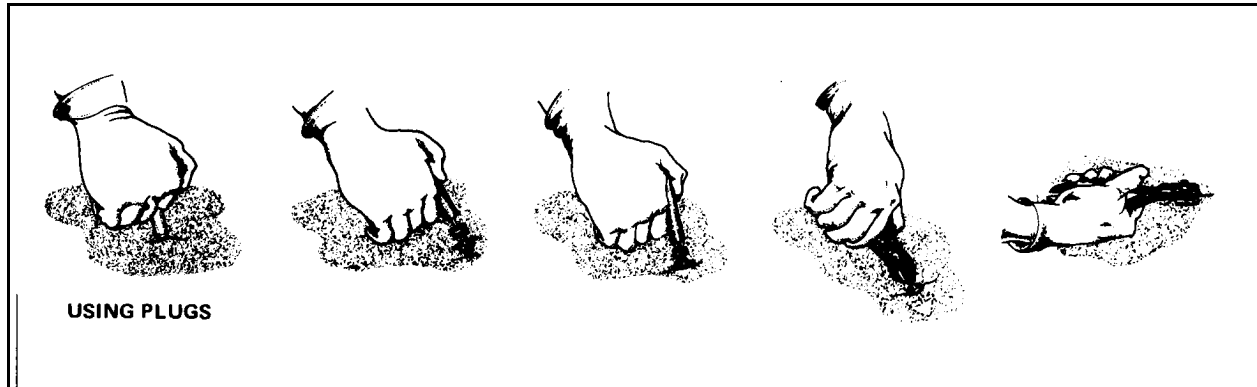

Figure 12-11. Repairing a collapsible tank using plugs
- Remove the wooden plug and use a rotary cutter to cut a clean edge around the hole as shown in Figure 12-11, page 12-11.